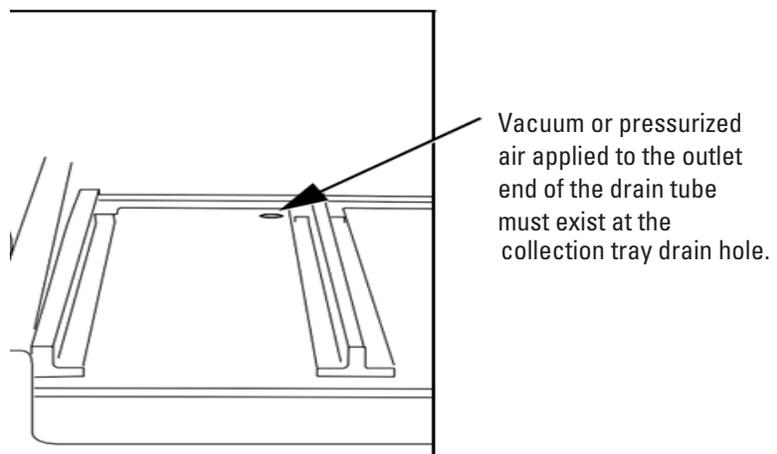

Figure 5-1 Fraction collection tray drain hole
2. Test the collection tray drain and top shelf drain by connecting a vacuum or air supply source to the outlet end of the drain tubes. Then, verify the presence of such vacuum or air supply source on the drain hole (Figures 5-1 and 5-2).